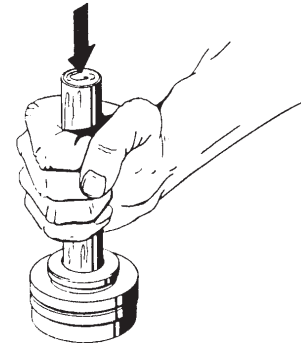

Figure 4-2
- If the seal seat (#12.5B) must be reused, use a wooden dowel sized to fit through the hole in the seal cup to tap it out. (refer to figure 4-2) Ceramic seal seats are particularly easy to damage. Normally, always replace the seats when servicing the pump.